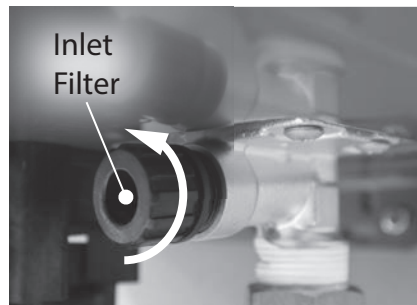

Figure 223 - Locate and remove inlet filter
- 8** Locate and remove the inlet filter as shown in Figure 223 to drain any residual water left in the system.